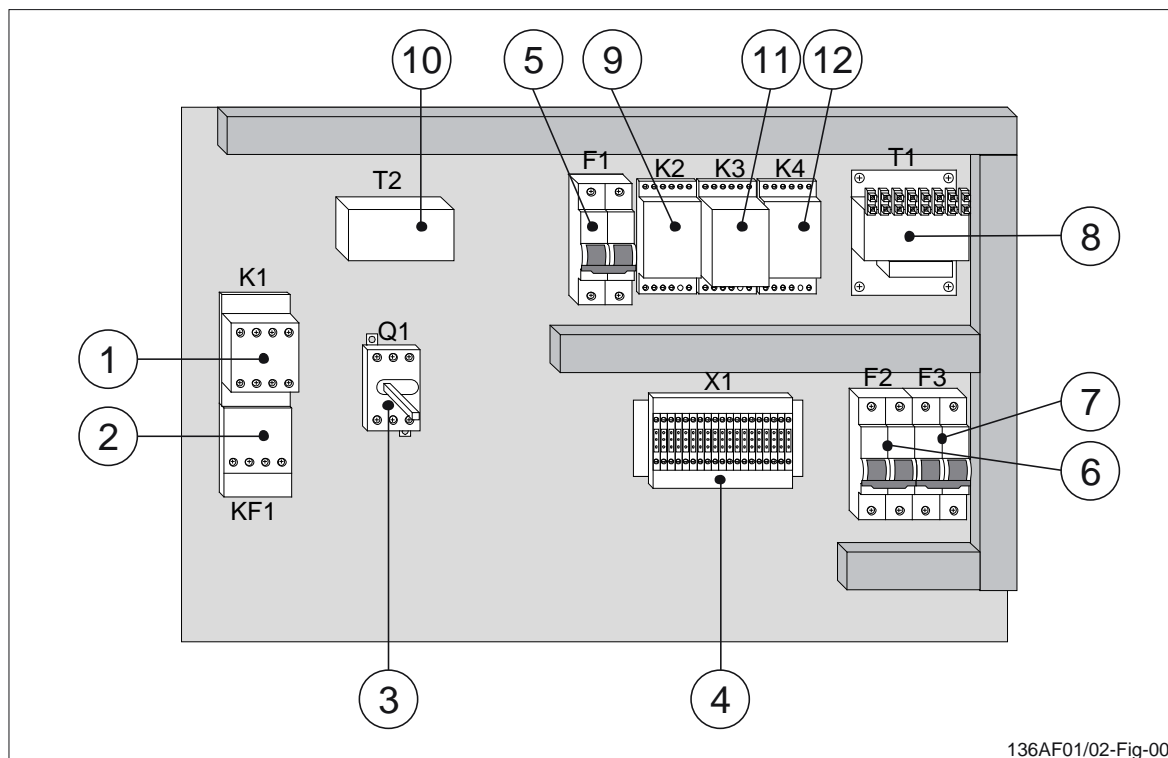

Figure 3 Internal equipment of pump motor starter P1 and P2.
With the remote/local switch S2 in LOCAL position and switch stop/run S1 (4, figure 1) in RUN position the main contactor K1 (pos 1, figure 3) is activated and the pump motor will run.